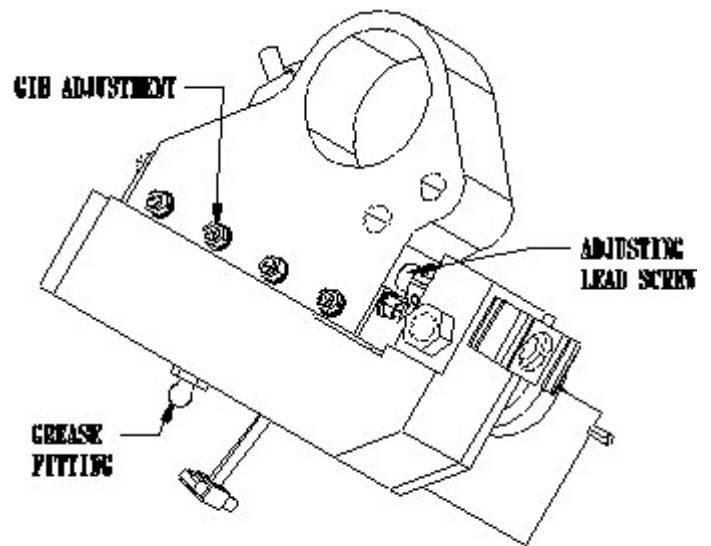

FIG. 7
2. Use the grease fitting provided to grease the do tail with high quality lithium grease monthly. Wipe off excess grease. See FIG. 7.
3. Wipe and re-oil with spray lubricant, the grinding wheel diameter adjusting lead screw every three months. Wipe off all excess lubricant. See FIG. 7.
4. Check the gib adjustment on the Grinding wheel diameter adjustment every 3 months. See FIG. 7.